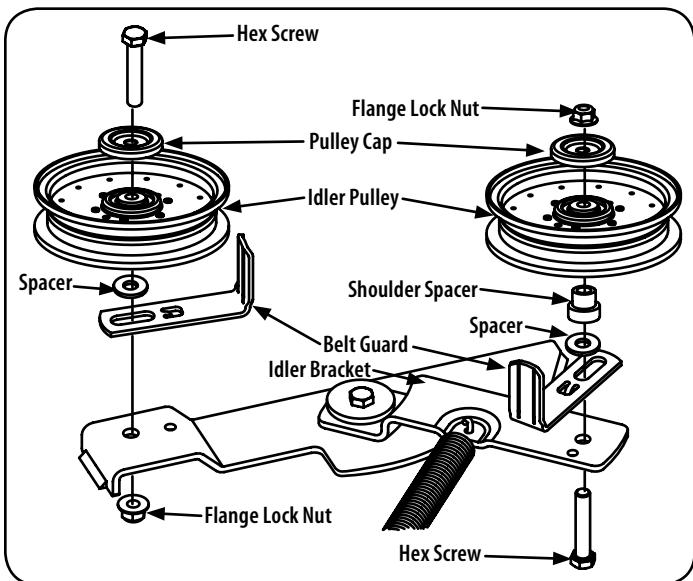

Figure 41
- a. Remove the movable idler pulleys and belt guard on the left pulley by removing the hex screws, pulley cap and flange lock nuts that secure them the idler arm and deck. See Figure 41. Do not lose any of the hardware when removing the hex screw, belt guard, pulley cap, spacer, shoulder spacer and flange lock nut.
- d. Place the belt around the idler pulleys removed in step 3 with the "V" side facing in. Once in place, reinstall all the hardware and tighten the flange lock nut to secure the assembly. See Figure 41.